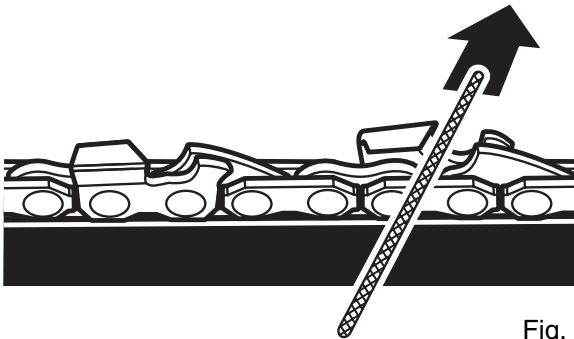

Fig. 60
4. Keep the file level with the top plate of the tooth. Do not let the file dip or rock. See Figure 60.